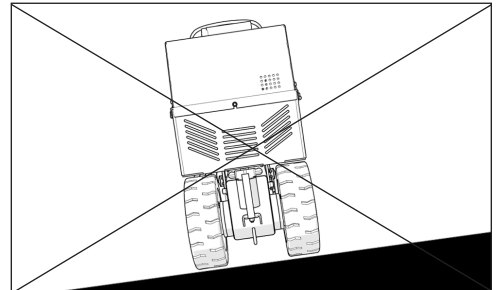

FIG. 2
**WARNING:** MACHINE HAS A SWIVEL FRONT CASTER. NEVER SIDE HILL (FIGURE 2) THE MACHINE ON A INCLINE WITHOUT POWER, THE FRONT CASTER WILL CAUSE MACHINE TO SWING TO THE LOWEST POINT. IF IT IS NECESSARY TO RUN MACHINE ON AN INCLINE, RUN MACHINE ON CUTTING HEAD. PLACE AT LEAST A 8" CUTTING HEAD IN MACHINE. TO KEEP FROM DAMAGING FLOOR, CLAMP A PIECE OF CARPET INTO CUTTING HEAD. THIS WILL GIVE POSITIVE CONTACT WITH THE FLOOR WHEN POWER IS DISENGAGED FROM THE WHEELS.